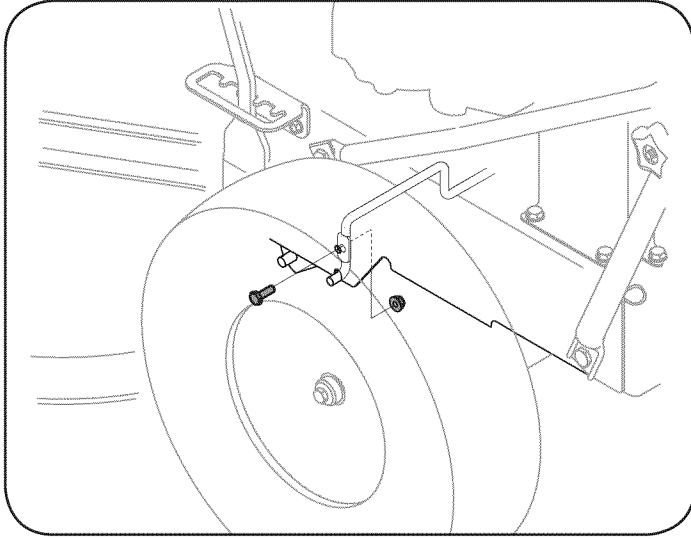

Figure 24
5. Remove the screw and flange nut which secures the belt keeper rod to the left side of the mower's frame. See Figure 24.